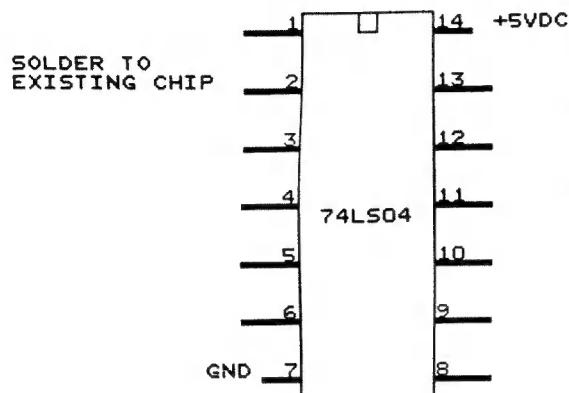

FIG. 1
**CURE 1:** Install a simple one I.C. circuit on your logic board. This I.C. may be "piggy backed" on to another 7404 series chip for power by bending up all but the two power pins so that they are parallel to the top surface of the new I.C. and then connecting the power pins only to the existing chip. (See Fig. 1) Next connect the sync wires as shown in Fig. 2. (Note: Figure 2 shows a hookup for either **composite** or **separate syncs**.)